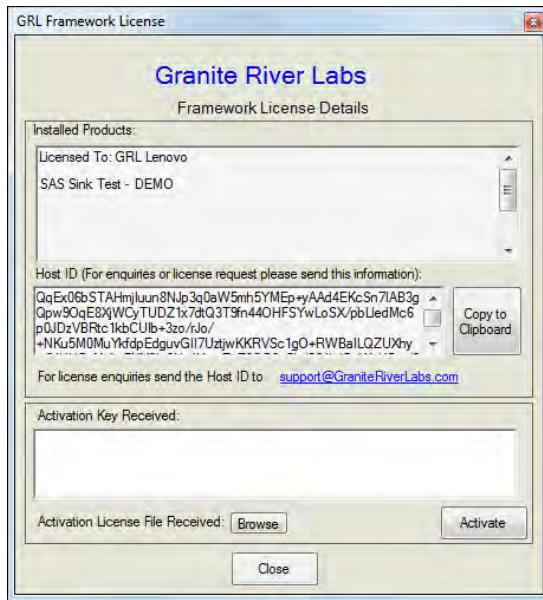

FIGURE 6. LICENSE DETAILS WINDOW
- To enable license, go to License->License Details. The dialog in Figure 6 will pop up.